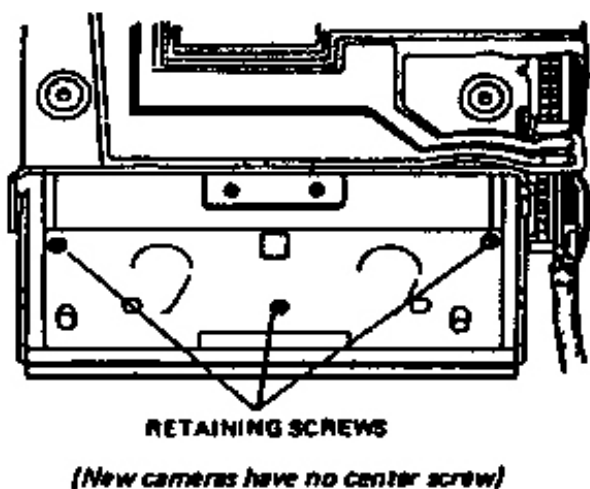

Figure 4-8 Boot retaining screws
7. remove the inner-frame-to-boot-retainer screws (Figure 4-8).